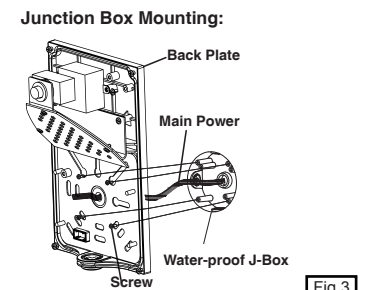

Fig.3
3. **Junction Box Mounting:** Feed main power wires through back plate and mount back plate to water-proof J-box. (Fig. 3)